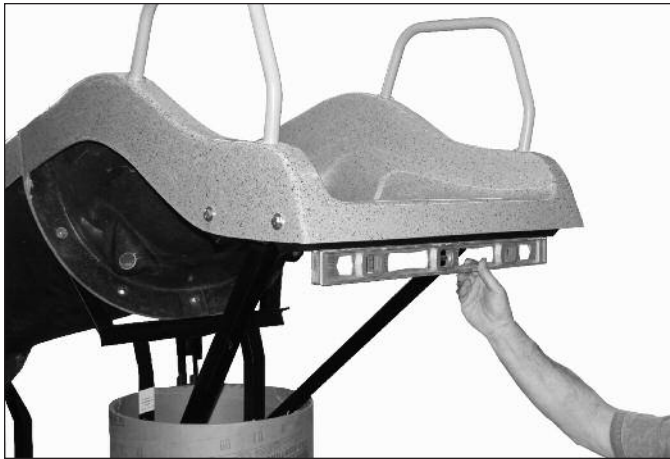

Fig. 19
- The entry section seating area is almost flat, however, for proper drainage it incorporates a slight downhill slope which transitions to a full 20°. To ensure correct placement of the entry section the entry frame support must be level to ensure correct orientation of the slide. (Fig. 19 & 20)